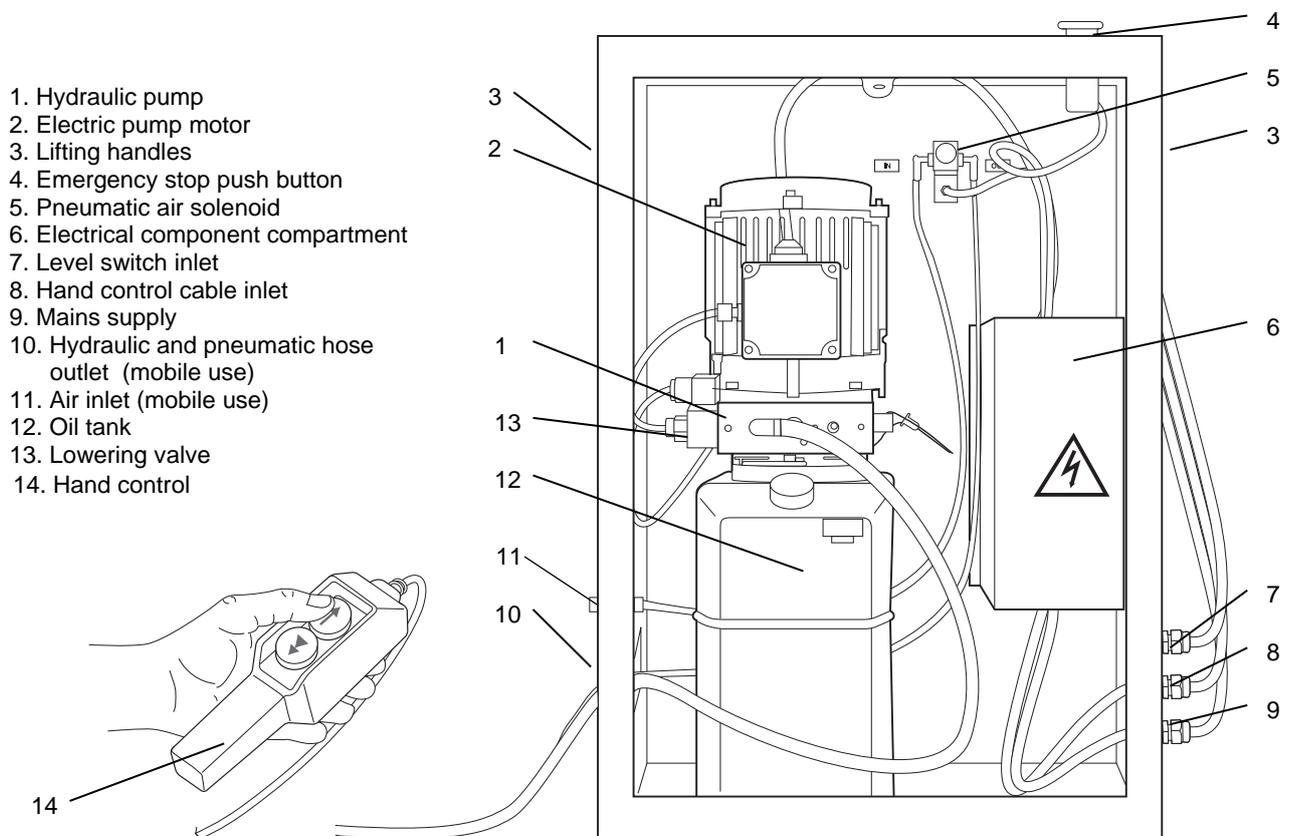

Figure 1.1 The Car-O-Liner Power Unit.
The Power Unit has an emergency stop (4), see Figure 1.1. When the user pushes the emergency switch, the Power Unit stops operating.